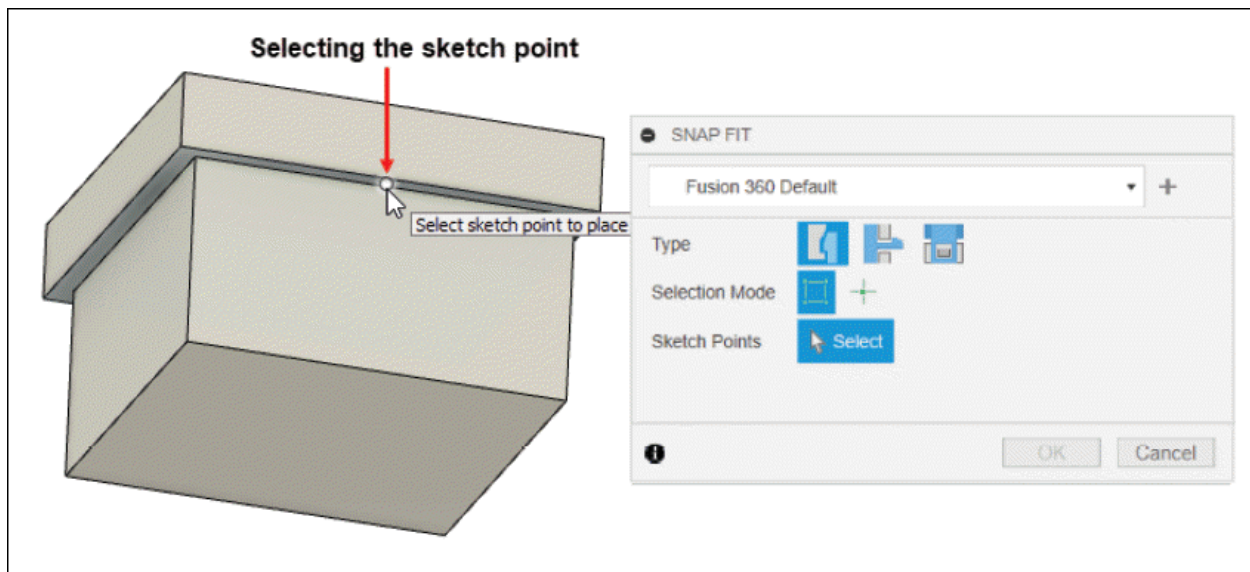
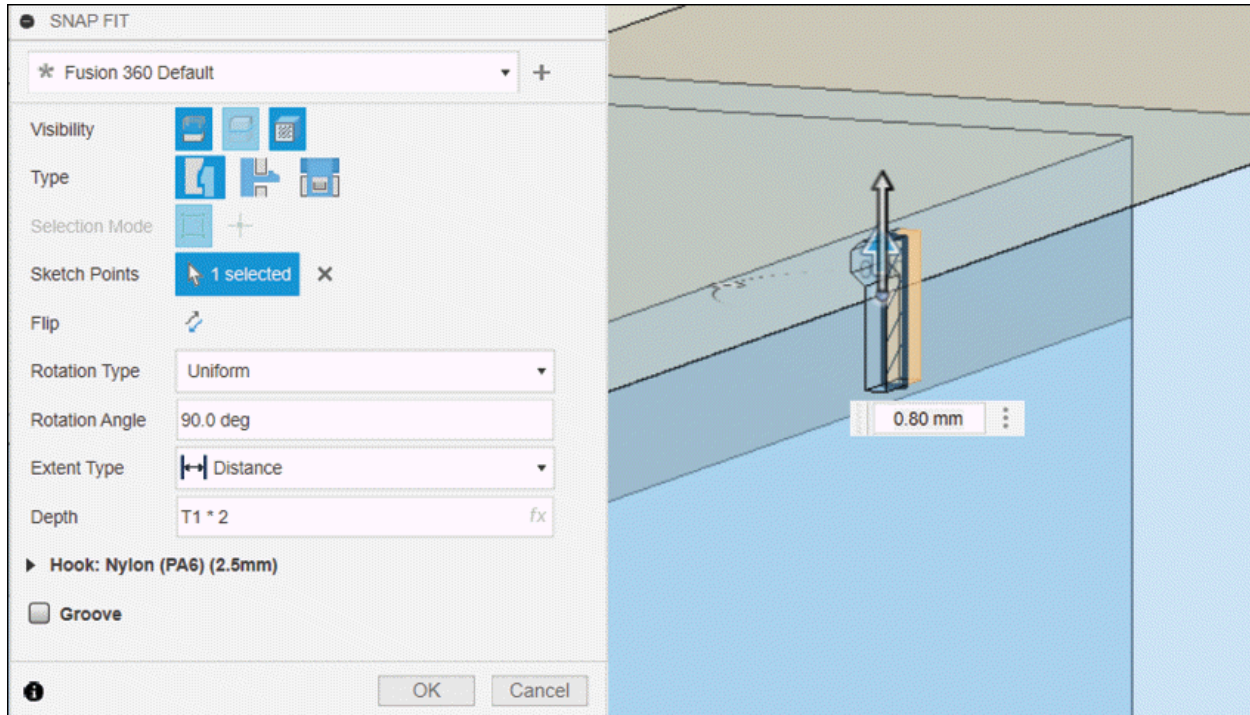

Figure-148. Selecting sketch point for snap fit
Figure-149. Updated SNAP FIT dialog box
- The **Select** button of **Sketch Points** section is active by default. Select the sketch point to position the hook side of each snap fit feature; refer to Figure-148. The preview of snap fit along with updated **SNAP FIT** dialog box will be displayed; refer to Figure-149.